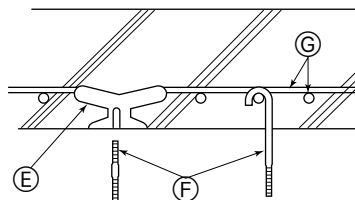

Fig. 4-2
4.1.2. Ferro-concrete structures (Fig. 4-2)